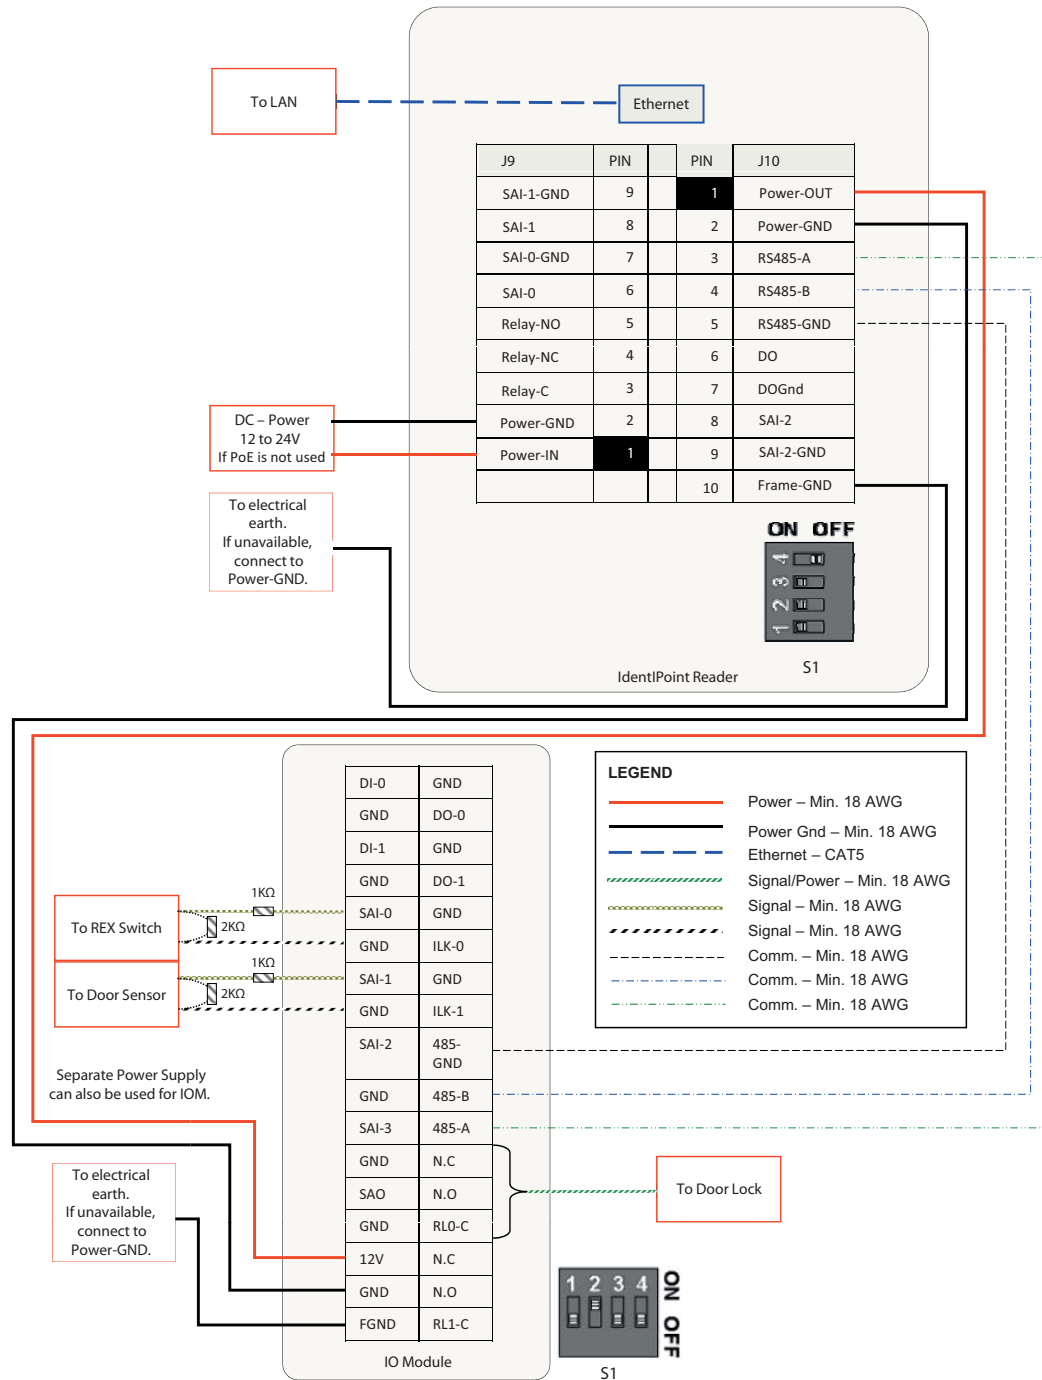

Fig. 22. Connections for single reader with REX and IOM (S1 DIP switch settings shown)
4. To power the IOM, plug the terminal block into the J1 port of the IOM such that the wires connected to the +ve and -ve pins of the power supply, connect with the pins for DC-IN and GND of the J1 port. The IOM may also be alternatively powered through an IdentIPoint reader (see Fig.22).